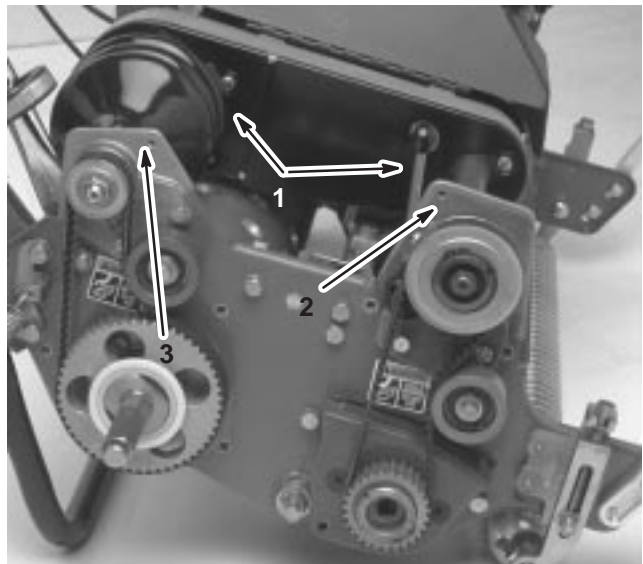

Figure 42
- Remove the capscrews securing the front and rear sections of the differential cover to the differential housing and slide the cover sections away to expose the belt (Fig. 42).
6. Remove the 2 capscrews and locknuts securing the front clutch housing to the side plate (Fig. 42).
8. Remove the 2 capscrews and locknuts securing the right rear bearing housing to the side plate (Fig. 42).